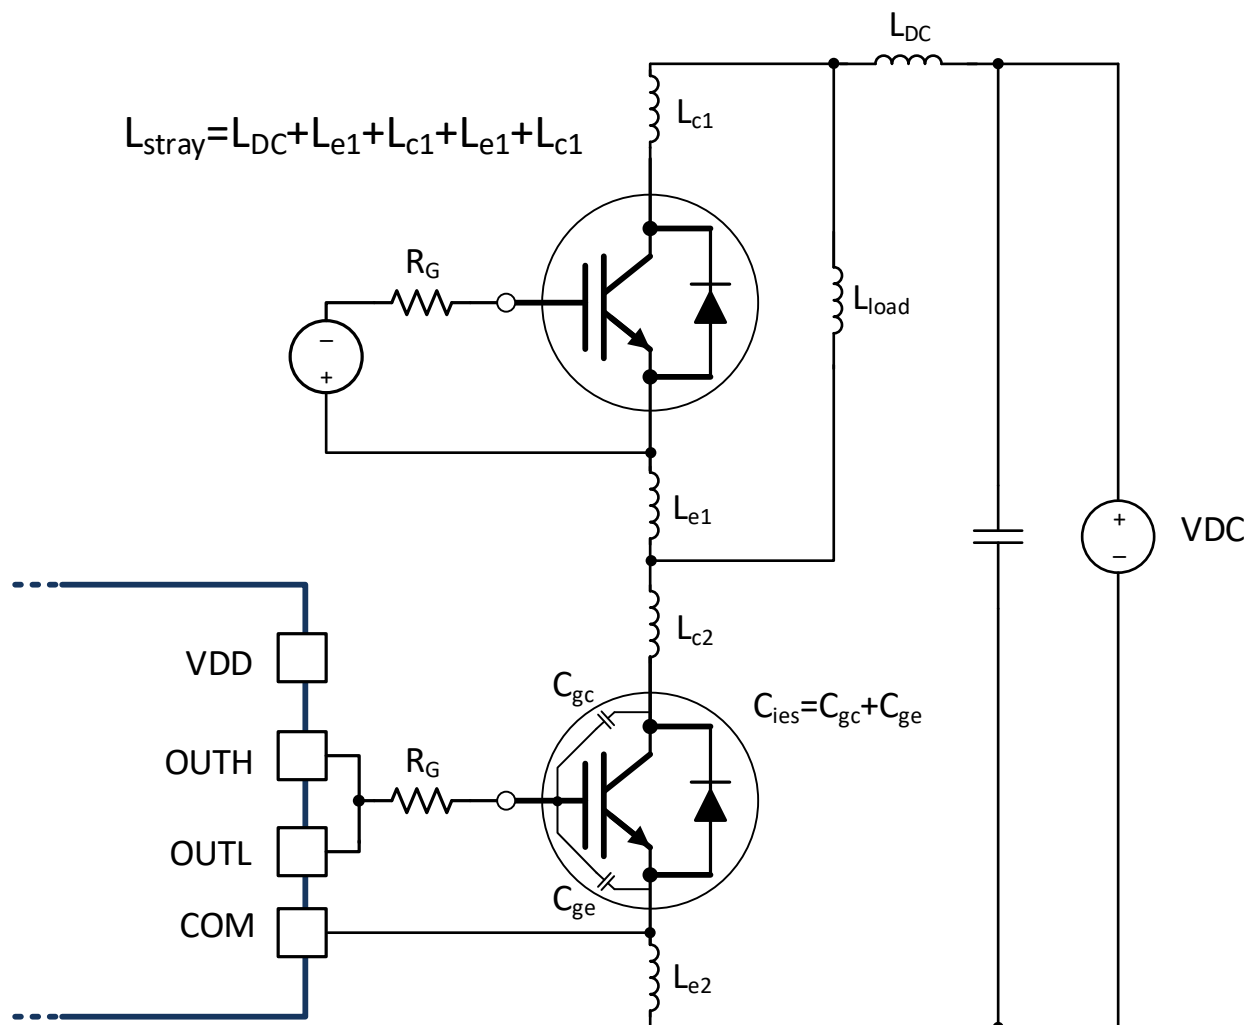

Figure 8-6. Stray Parasitic Inductance of IGBTs in a Half-Bridge Configuration
- L_{stray} is the stray inductance in power switching loop, as shown in Figure 8-6